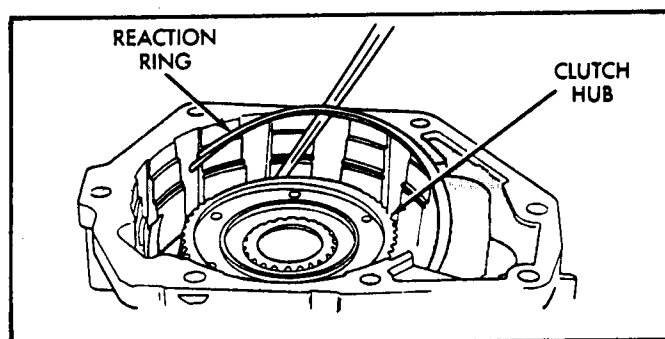

Figure 30
43. Install the FLAT snap ring first into the groove in the overdrive housing as shown in Figure 30, and ensure that it is fully seated.